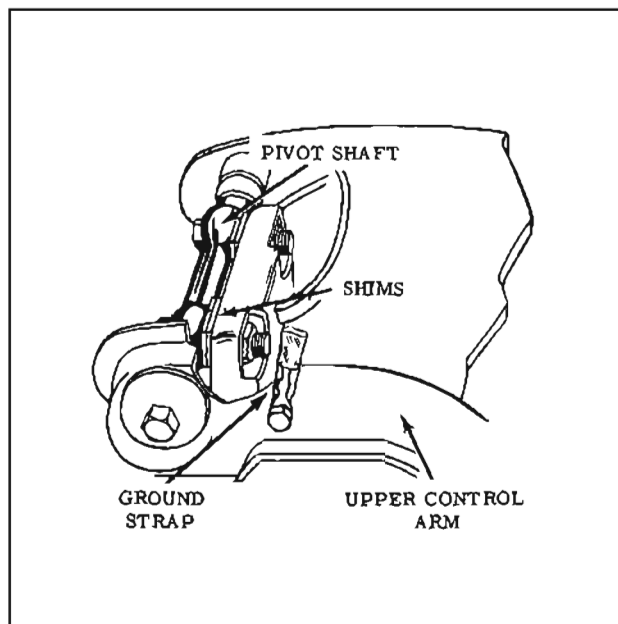

Fig. 9-14 Upper Control Arm Mounting
5. Using a 7/8" deep flex socket with a long extension, remove the pivot shaft to frame attaching nuts from under the fender. (Fig. 9-14) Remove wheel alignment shims, control